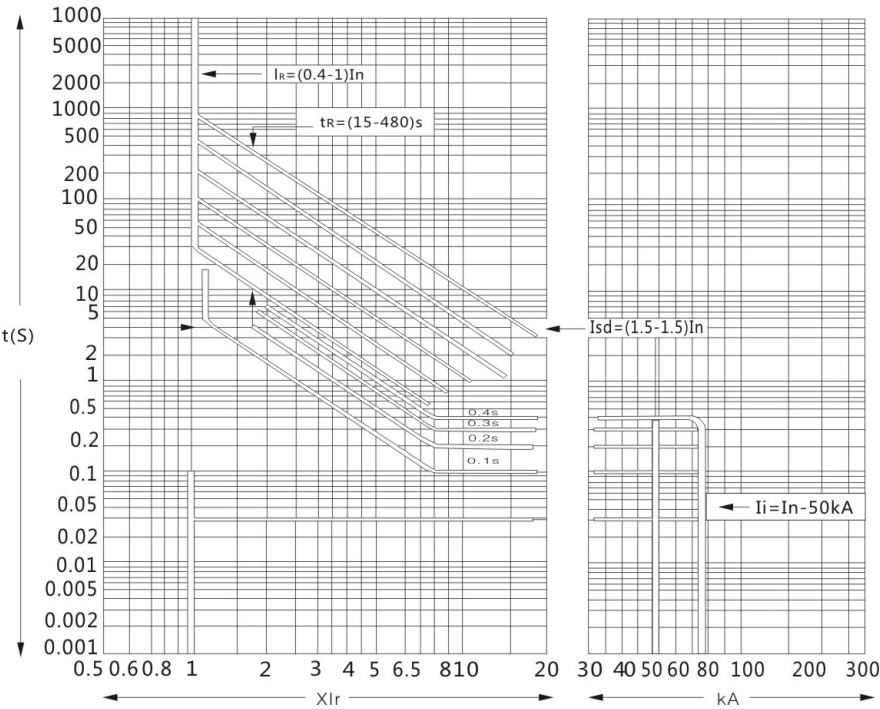
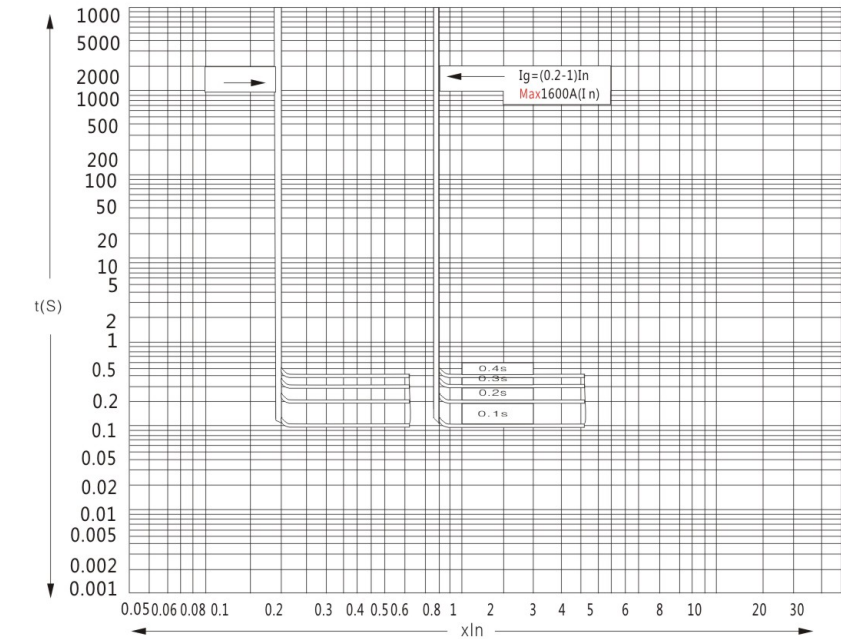

Figure 1 Overcurrent release protection characteristic curve
Figure 2 Ground fault protection characteristic curve
- 5.1 The characteristic curve of overcurrent release protection is shown in Figure 1, and the characteristic curve of ground fault protection is shown in Figure 2.